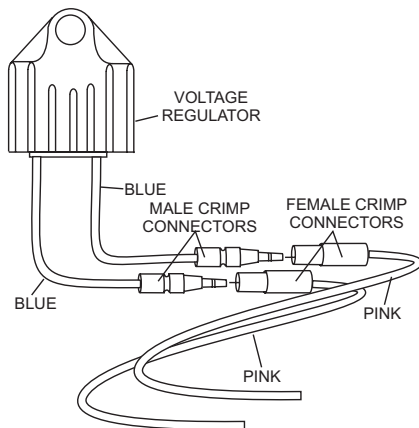

Figure 7. Regulator Blue Wire Connections
13. Crimp each pink wire (Figure 7) with a female crimp connector.
14. Insert, pink wire (2) with the female crimp connector into blue wire (2) on the voltage regulator with the male crimp connector. Orientation of wires does not matter.